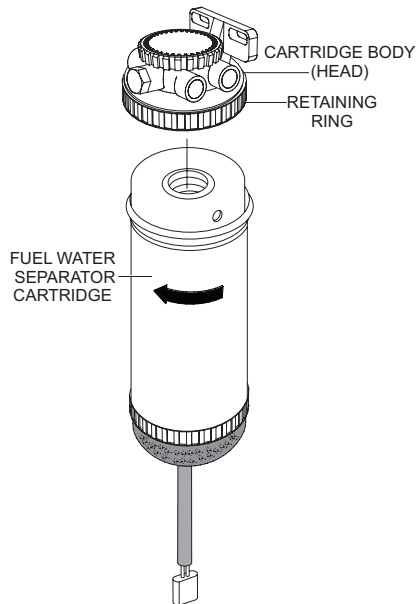

**Figure 63. Sediment Bowl**
1. Remove the sediment bowl from the fuel water separator cartridge as shown in Figure 63.